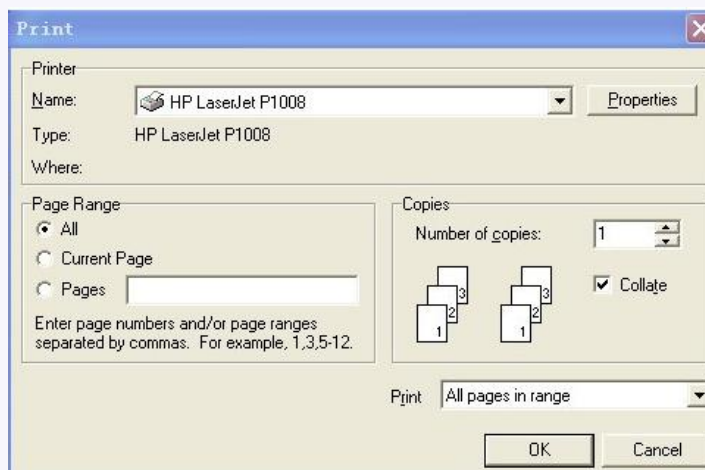

Fig. 7.10.9 File Print
2. Dialog box as shown in Fig. 7.10.9 appears, set up your printing requirement according to the cue of dialog box.